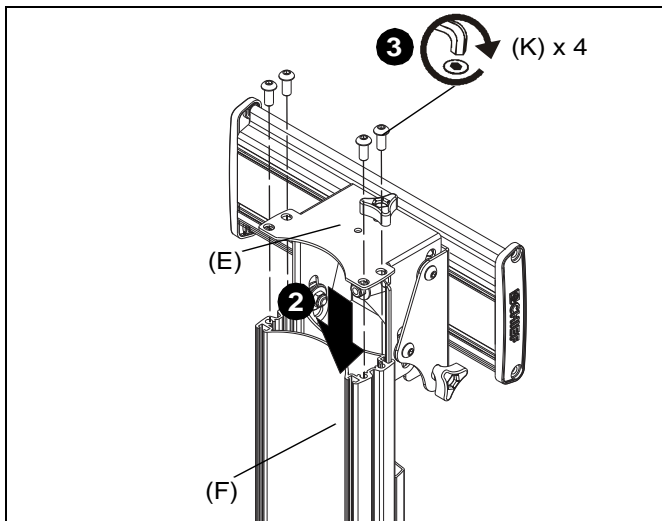

Figure 2
2. Slide interface head assembly (E) into column assembly (F). (See Figure 2)
3. Use four 5/16-18 x 3/4" button head cap screws (K) to secure interface head assembly (E) to column assembly (F). (See Figure 2)